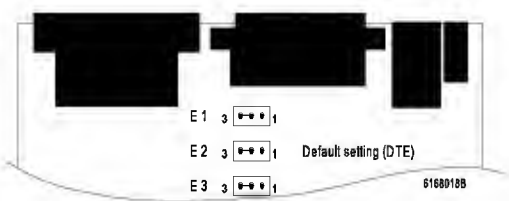

Figure 2-3. Configuring the SLIP Port for DTE or DCE Operation
1. Configure jumpers. Three jumpers (E1, E2, E3) determine if the SLIP port is configured as a DTE or DCE (Figure 2-3). These jumpers are pre-set to configure the SLIP port as a DTE (connects to a DCE).